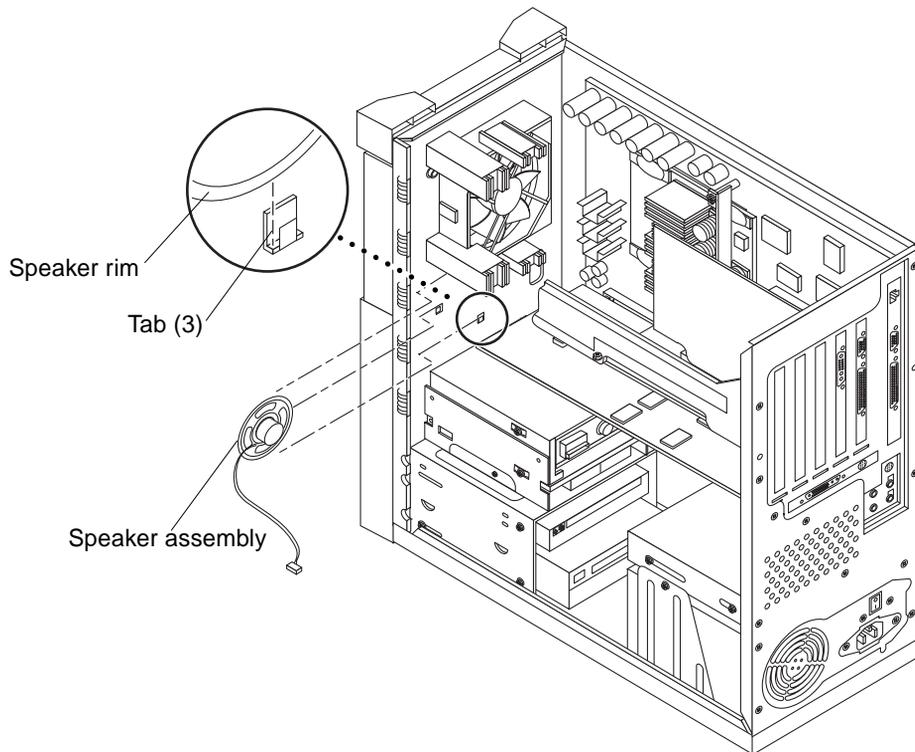

FIGURE 8-12 Removing and Replacing the Speaker Assembly (Ultra 10)
6. Remove the speaker assembly from the Ultra 10 as follows (FIGURE 8-12):
3. **Replace the speaker assembly into the Ultra 10 as follows (FIGURE 8-12):**